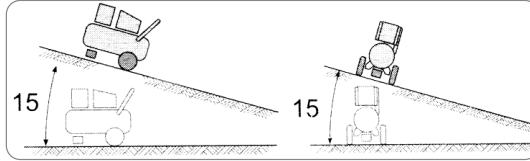

FIGURE 6.9
- In order to avoid damage to the compressor, operate it only on a level base or, as recommended, at a maximum of 15° (Figure 6.9). If the compressor operates on an inclined plane (maximum 15°), the wheels must be chocked to avoid unwanted rolling.